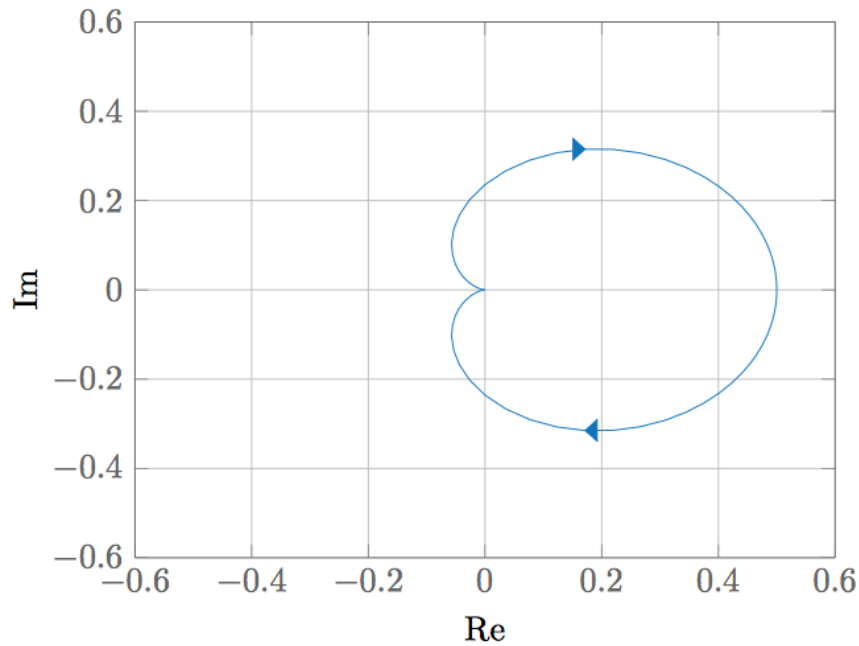

Figure 4: Example of a Nyquist diagram.
- **Nyquist diagram:** the Nyquist diagram is a frequency implicit representation of the complex number $L(j\omega)$ in the complex plane. An example of a Nyquist diagram is shown in Figure 4.